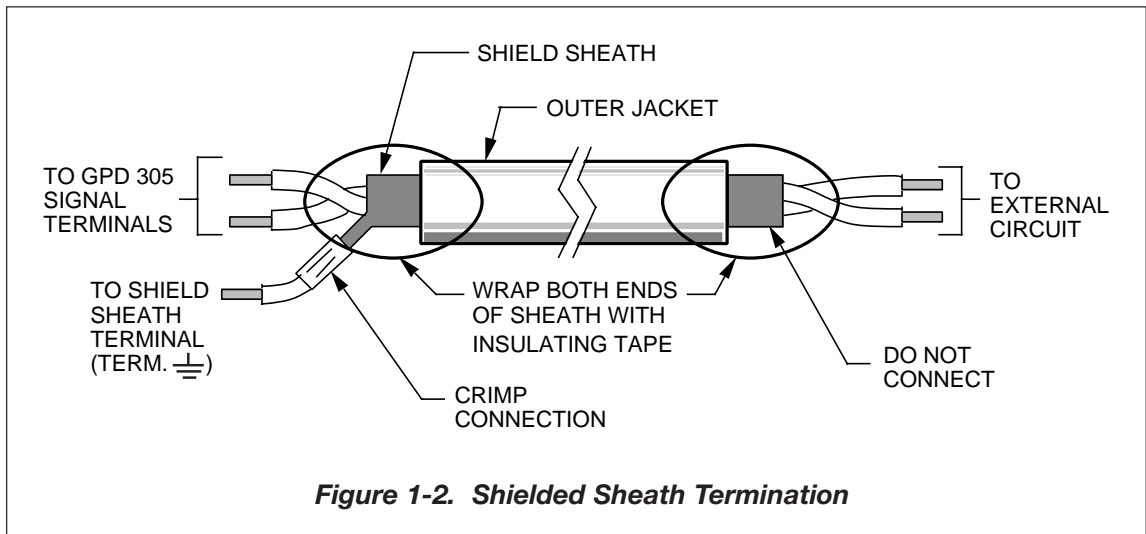

Figure 1-2. Shielded Sheath Termination
- Power Leads : Input Terminals L1 (R), L2 (S), and L3 (T), and Output Terminals T1 (U), T2 (V), and T3 (W).
- Use twisted shielded or twisted-pair shielded wire (20-16 AWG (0.5-1.25mm²)) for control and signal circuit leads. Use twisted shielded or twisted-pair shielded wire (20-14 AWG (0.5-2mm²)) for shield sheath terminal (terminal \oplus). When using shielded wire, the shield sheath **MUST** be connected at the Drive **ONLY** (terminal \oplus). The other end should be dressed neatly and left unconnected (floating). See Figure 1-2.
- Signal leads (see above) must be separated from control leads, main circuit leads L1 (R), L2 (S), L3 (T), T1 (U), T2 (V), T3 (W), and any other power cables, to prevent erroneous operation caused by noise interference.